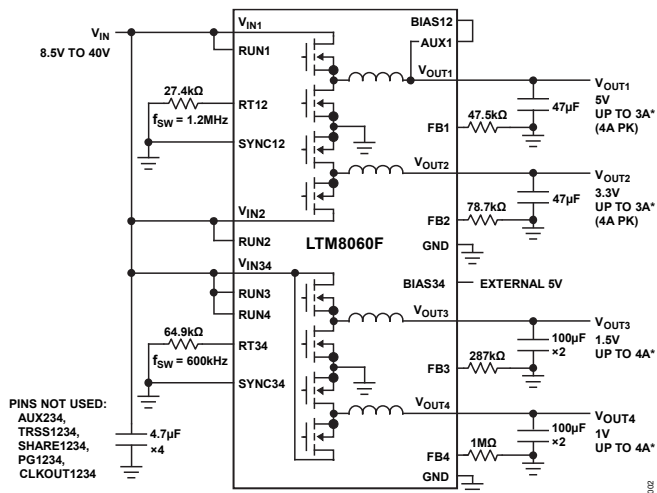

Figure 2. Quad 3A (4A Peak) Output from 8.5V to 40V Input
* The output current capability (transient peak or continuous) in Figure 2 is subject to environmental factors such as ambient temperature, airflow, or other cooling techniques. For different V_{IN} , V_{OUT} , and T_A conditions, see the notes section (Note 3) of the Electrical Characteristics table and the derating curves in the Applications Information section.